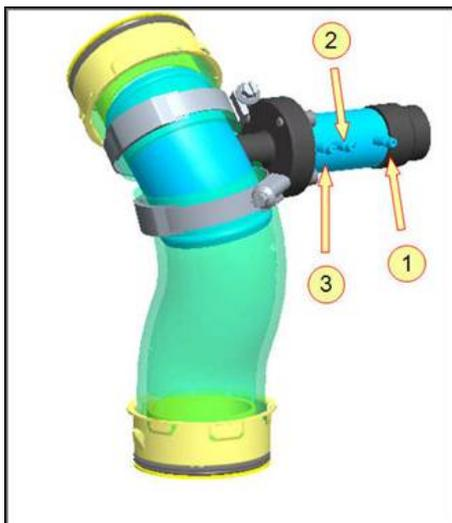

Figure 2
- Note the vacuum hose routing on the temperature switch (figure 2).